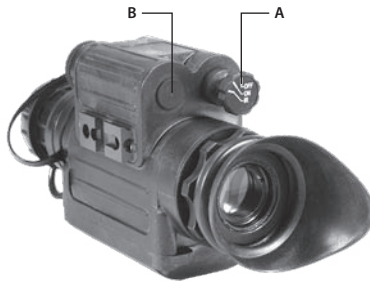

FIGURE 3-15. IR ILLUMINATOR OPERATIONS
To activate the IR illuminator, turn the monocular on. Flip the function switch (A) CW from ON to the IR position. A red indicator (Fig. 3-15, B) lights when the IR illuminator is turned on.